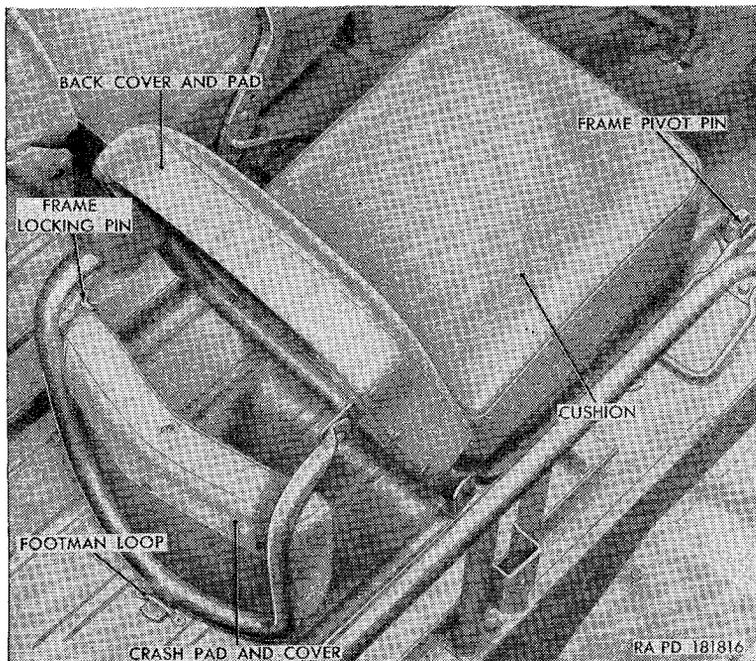
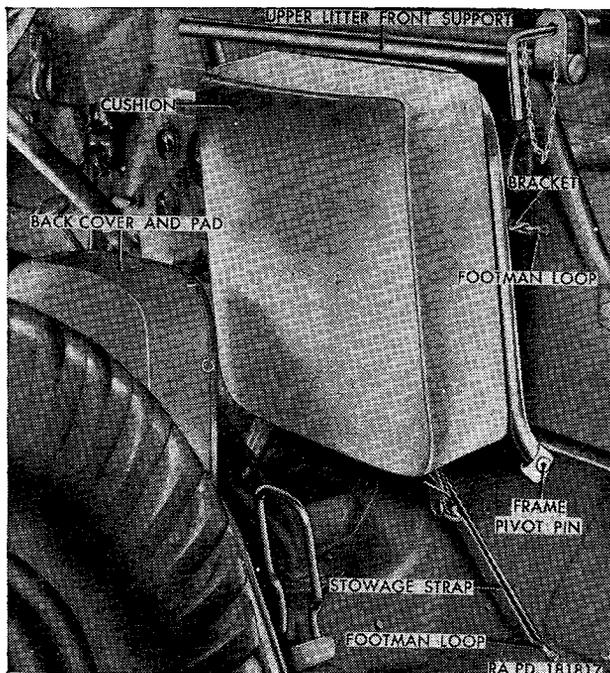

Figure 22. Front passenger seat (M170)—passenger position.
Figure 23. Front passenger seat cushion (M170)—in stowage position
- (2) Withdraw the front passenger seat frame locking pin (fig. 22) from the holes in the passenger seat frame locking and retaining brackets. Tilt the front passenger crash pad and cover rearward until it rests on the floor pan. Move the portion of the crash pad, that rests on the floor pan, forward and then rearward, as necessary, until the seat frame locking bracket engages the footman loop (fig. 22) on the floor pan.
the cushion (fig. 23). Lift the cushion up until the front passenger seat frame pivot pins are clear of the brackets on the windshield frame and remove cushion from windshield. Position the cushion in the driver's compartment so the frame pivot pins (fig. 22) are over the seat hinge pivots on the floor pan. Aline the flat sides of the pins with the flat faces of the pivots and insert the pins into the pivots. Tilt the seat cushion rearward until the frame rests on the floor pan.
- (1) Tilt the front passenger seat cushion (fig. 22) forward until the flat sides of the front passenger seat frame pivot pins are alined with the flat faces of the seat hinge pivots on the floor pan. Lift the cushion up until the pins are clear of the pivots and remove the cushion.
- (2) Position the front passenger seat cushion (fig. 23) against the instrument panel so the pivot pins point down, and insert the two brackets on the frame of the seat into the footman loops on the instrument panel. Fasten the passenger seat stowage strap, secured to the cushion, to the footman loop on the floor pan. Fasten the passenger seat stowage strap, secured to the footman loop on the instrument panel, to the frame of the seat cushion.
- (3) Push the rear of the front passenger crash pad and cover (fig. 22) forward until the locking bracket on the seat frame is clear of the footman loop on the floor pan. Raise and swing the crash pad and cover forward until the front passenger seat back cover and pad rests on the floor pan. Raise the crash pad and cover to upright position. Lock the crash pad in upright position by inserting the front passenger seat frame locking pin through the front passenger seat frame locking and retaining brackets.